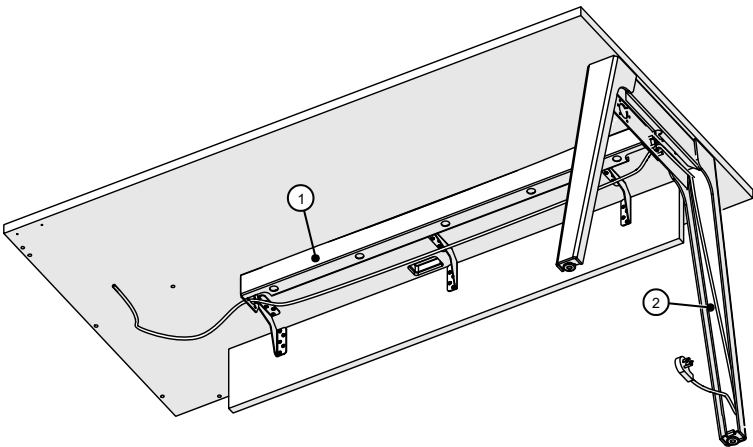

Figure 1
1. Fish wires and cables through holes of the table support beam or grommet hole: lay-in the wires and cables, (Figure 1).